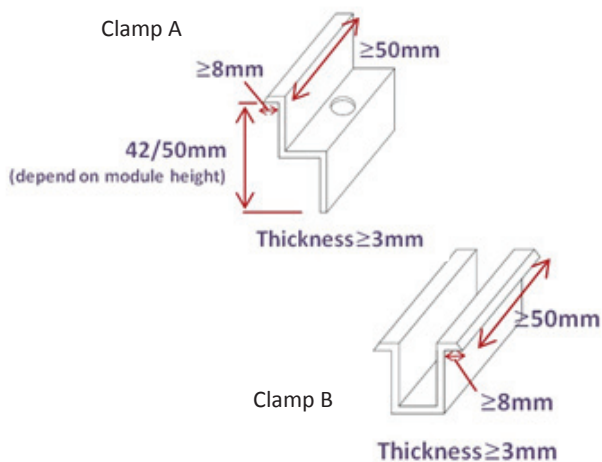

Fig 2.1
- The modules may be mounted using clamps (Clamp A and Clamp B) designed for solar modules as shown in Fig. 2.1.